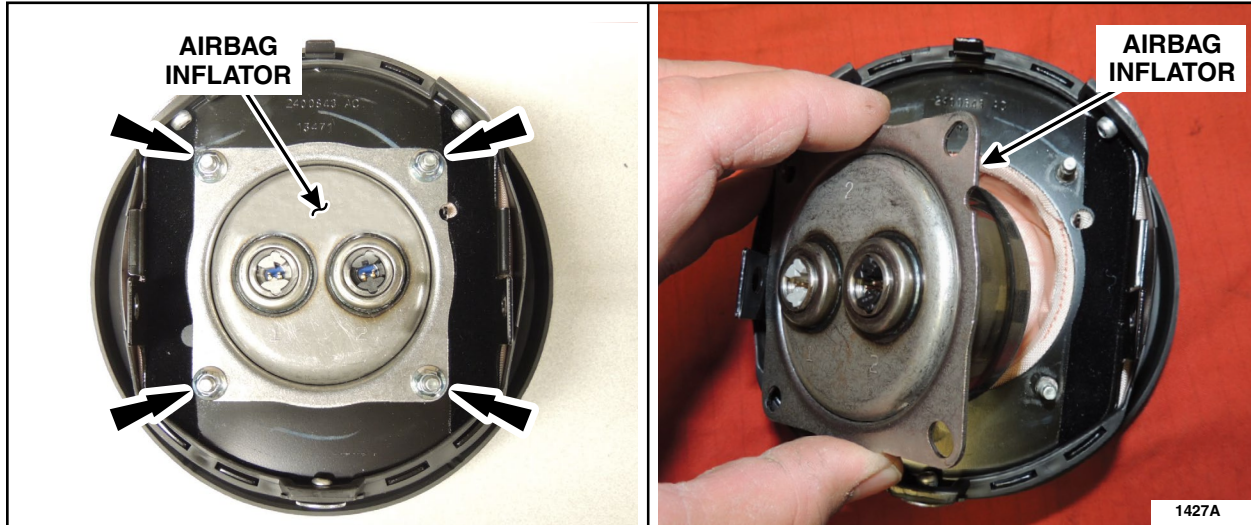

FIGURE 1
4. Remove and discard the four airbag inflator retaining nuts from the driver side airbag. See Figure 1.
Remove the airbag inflator and set aside for return shipping. See Figure 1.